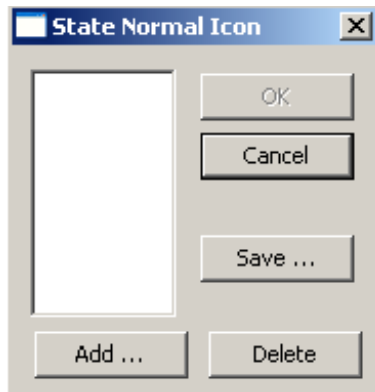

Figure 341. State Normal Icon Dialog Box
4. From the opened State Normal Icon dialog box, select required icon from the list of existing stored icons. If no icon exists then Click **Add** (see Figure 341).